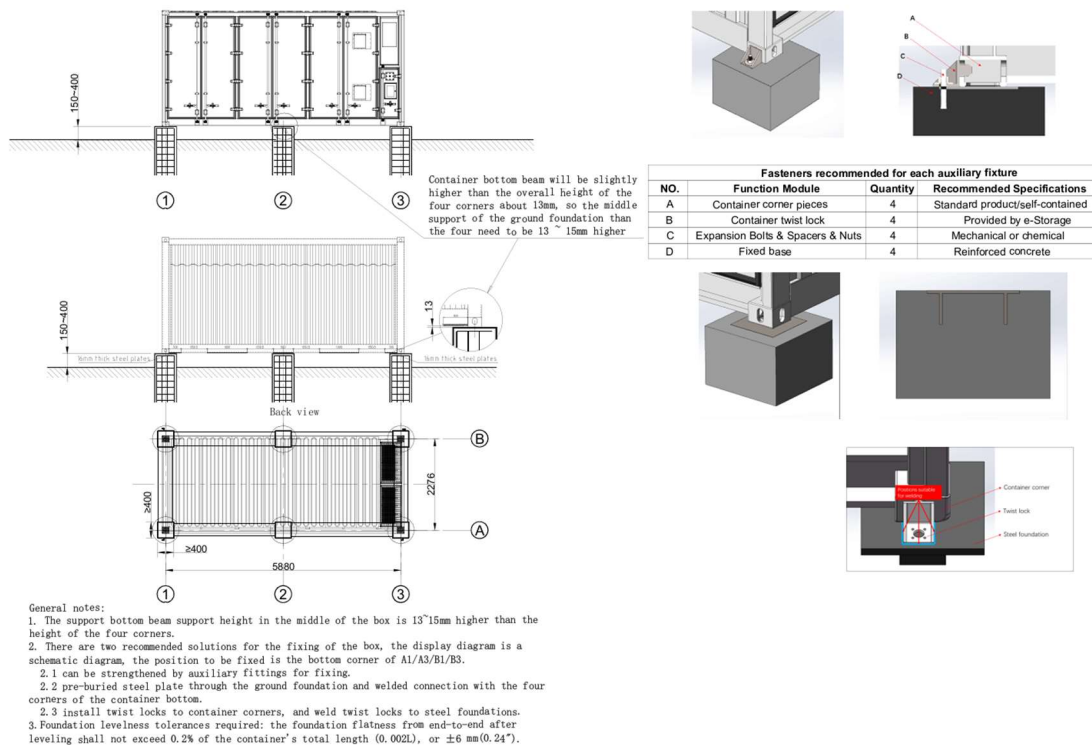

Figure 12: SolBank3.0 series anchoring in corner position. Refer to details for site specific design by EOR. (refer to Dwg NO. M150)
- ✓ Step 1: Secure base of SolBank to foundation using concrete expansion bolts and twist locks as shown in Figure 12 and Figure 13. For back-to-back installation, 8 twist locks are recommended (4 per SolBank) but four is also acceptable in low seismic areas, one per corner with bridge locks. For a stand-alone installation, it is recommended that 4 twist locks also be installed. The EOR shall perform an engineering review of anchoring design to ensure compliance with local AHJ requirements and regional seismic activity. The base of the steel frame structure can also be used for welding and fixing, which needs to be treated with rustproof paint after welding.